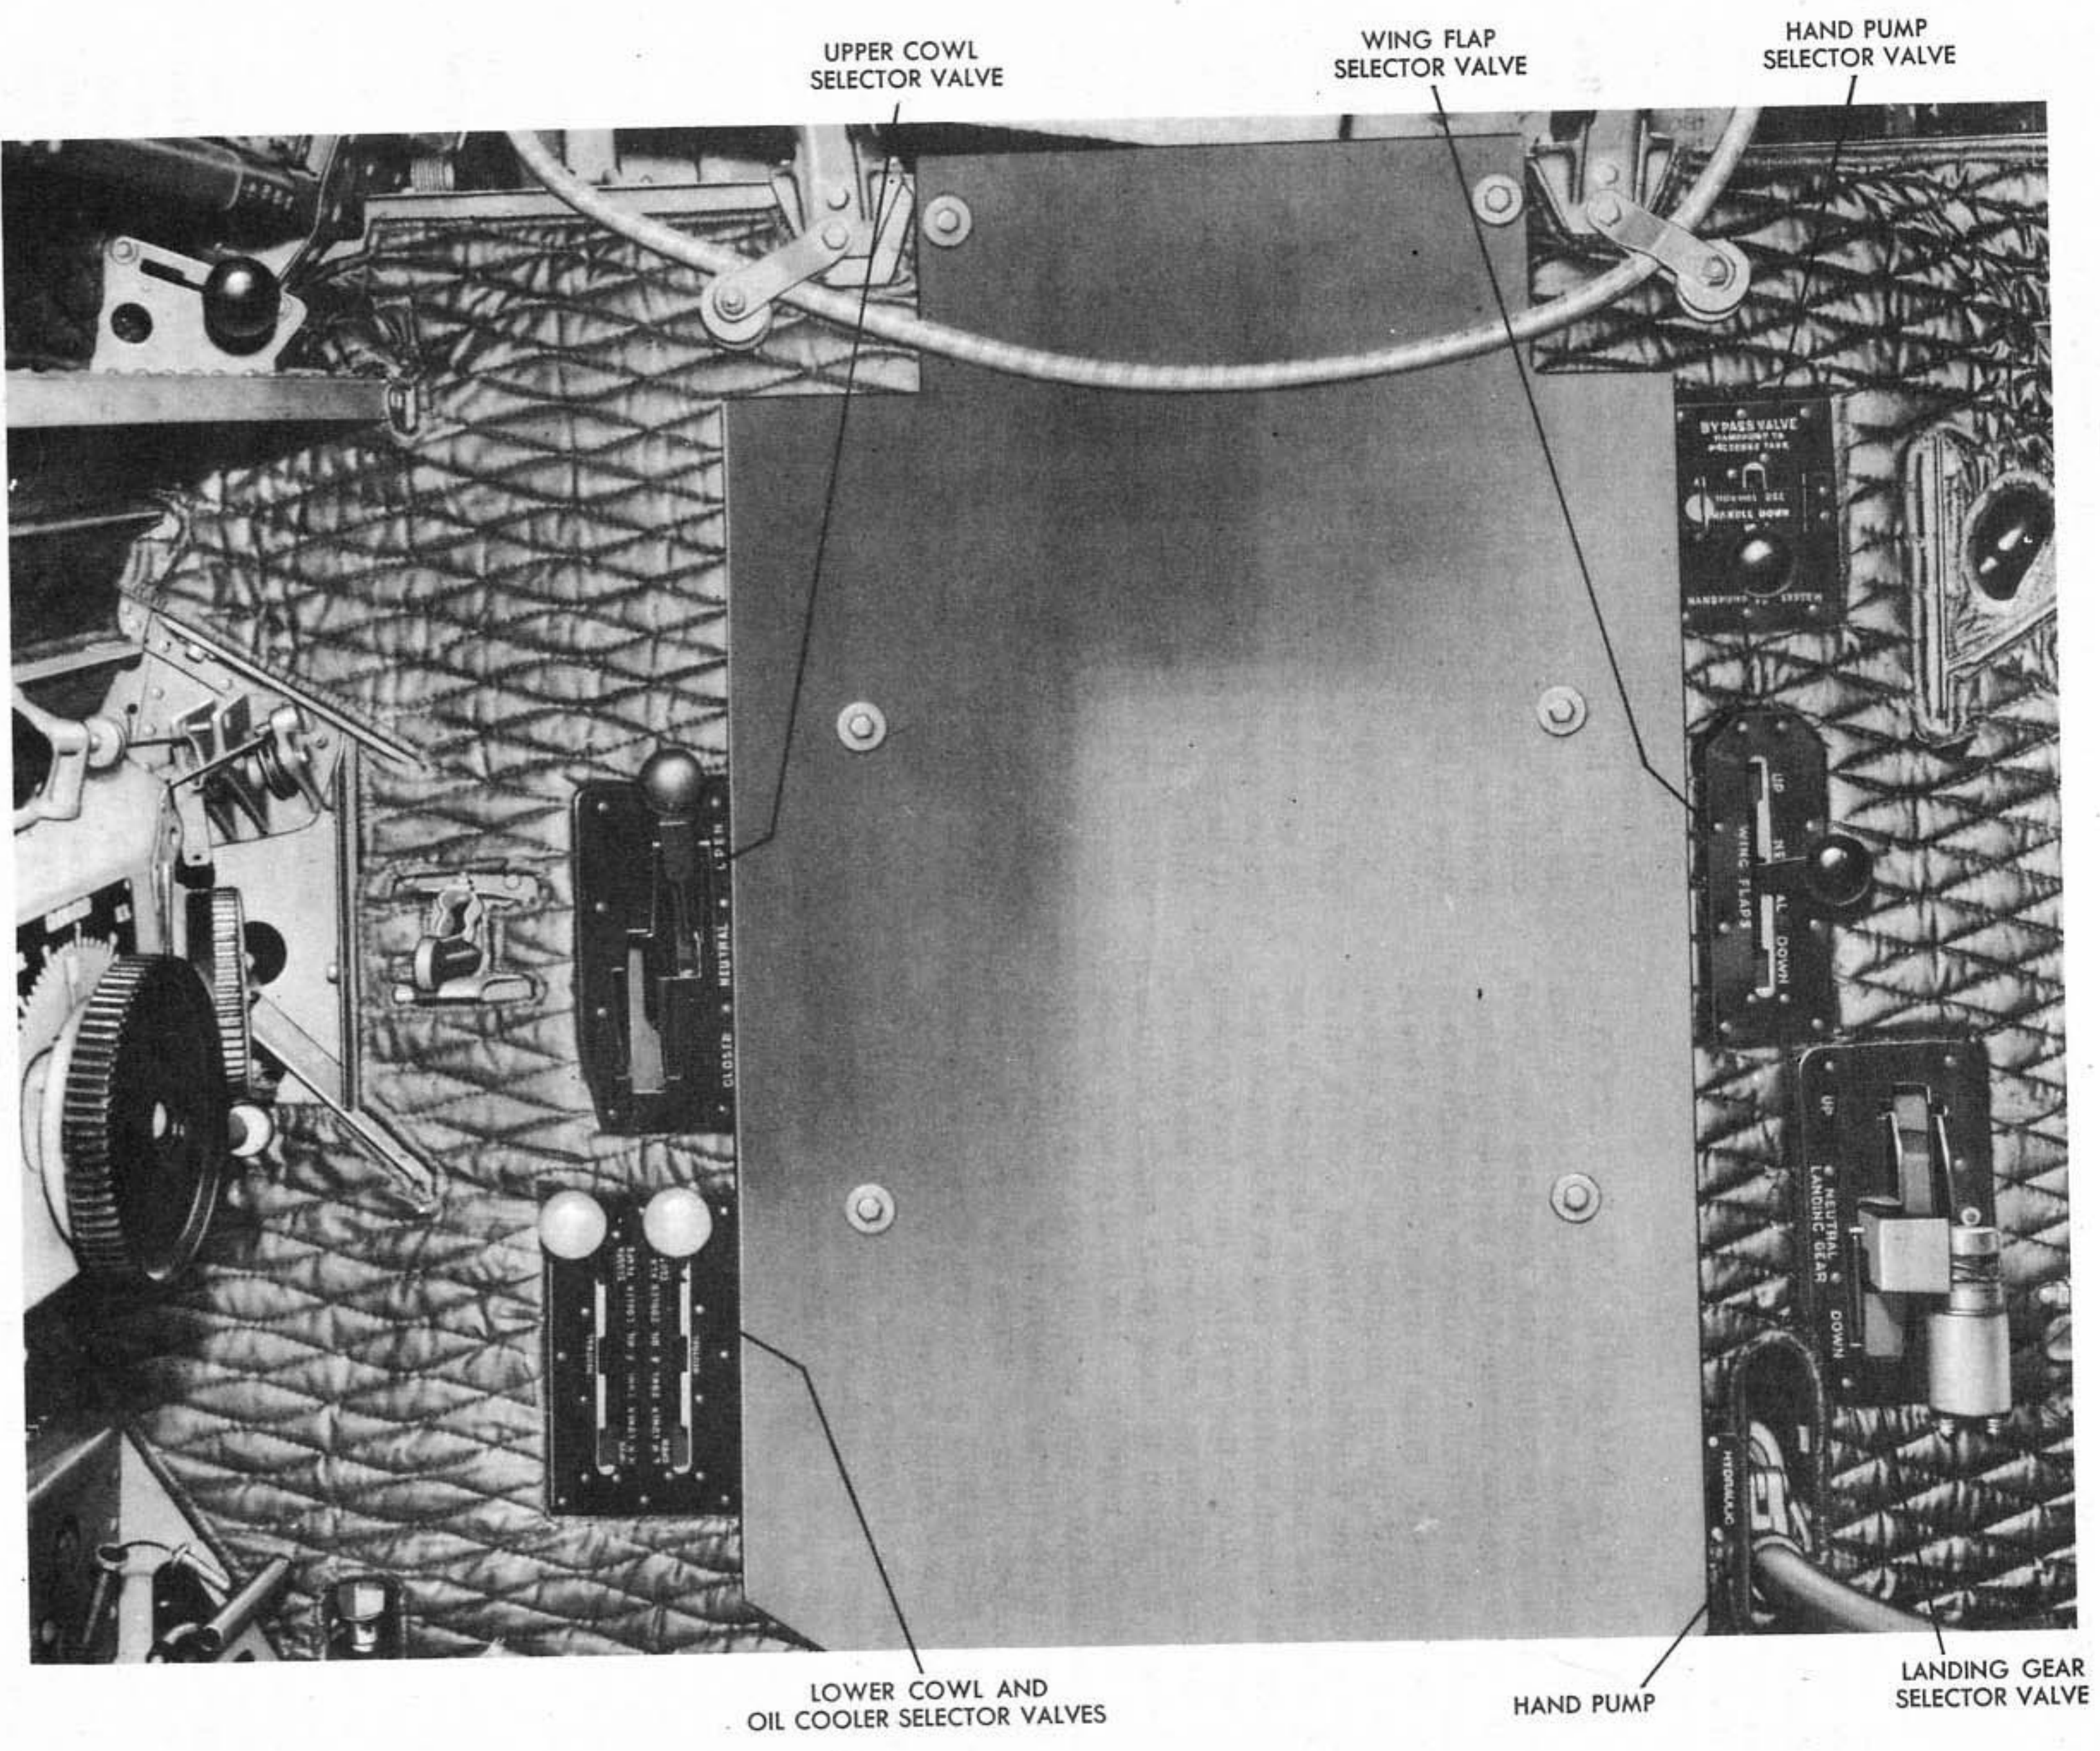

Figure 183 - HYDRAULIC SYSTEM CONTROL VALVES
(6) COWL FLAP SYSTEM. (See figure 228.) - Upper cowl flaps of each engine section are operated simultaneously by a single selector valve while each of the lower cowl and oil cooler flaps is operated independently by a separate selector valve. (See figure 183.)